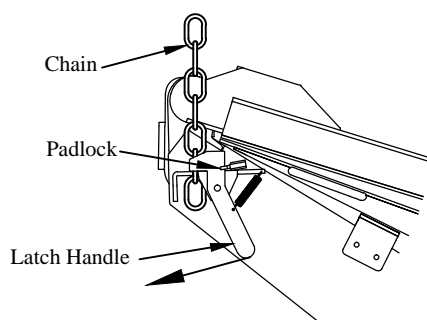

Figure 3: Step 5.
- Step 5. Unlock and remove the latch padlock (Figure 3).
- Step 6. Pull the latch handle away from the truck to disengage the latch. With the other hand, disengage the chain from the latch (Figure 3).